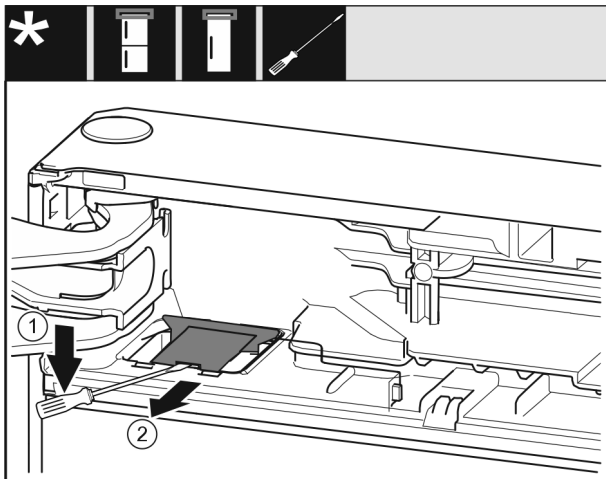

Fig. 10
- Use a flat-blade screwdriver to disengage the cover Fig. 10 (1).
- Remove the cover Fig. 10 (2).